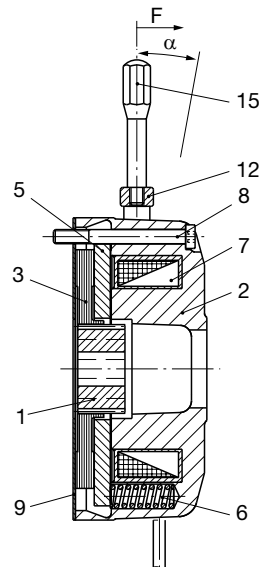

Fig. 2
- ❑ The position tolerance of the threaded holes for the cap screws (8, Fig. 2) may not exceed 0,2 mm.